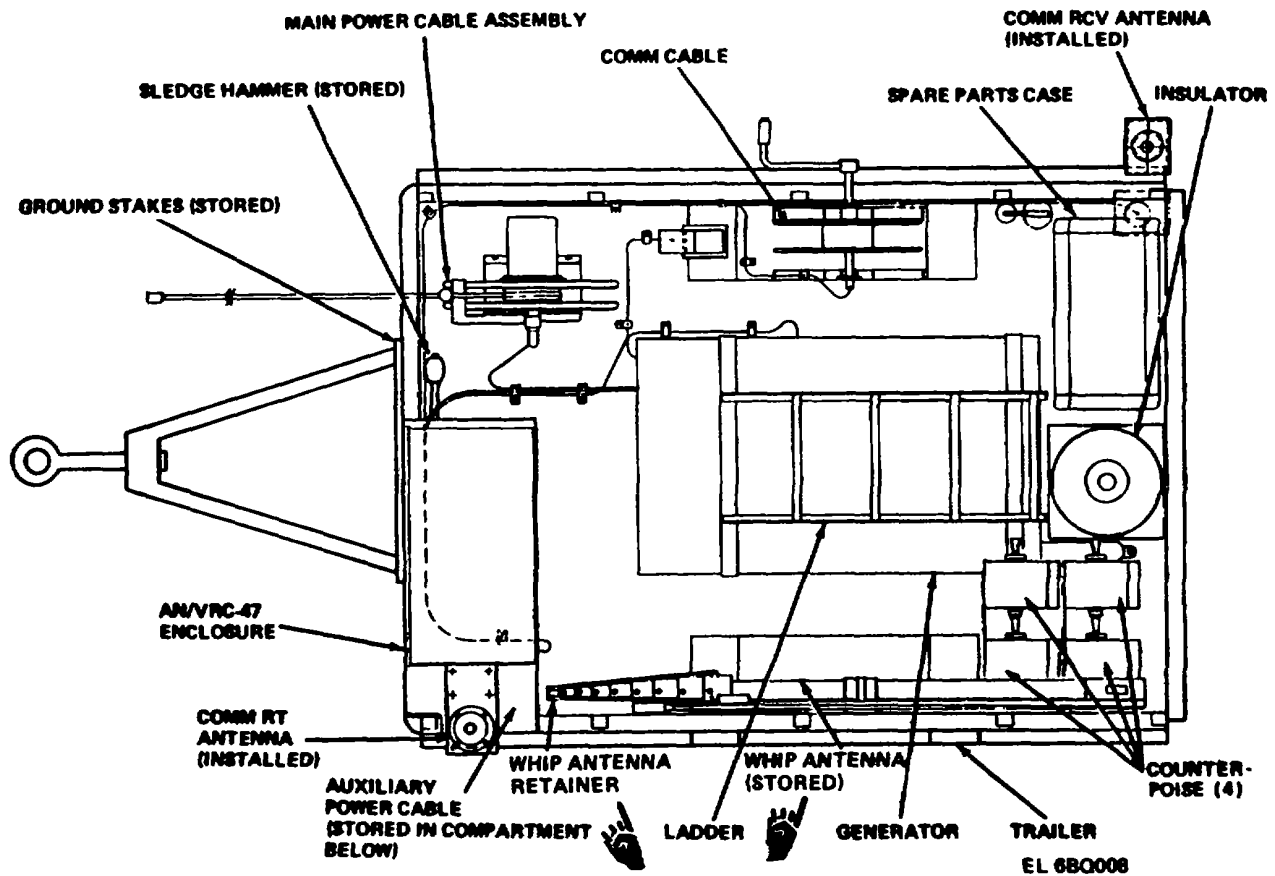

Figure 2-23. Trailer, top view, location of equipment for installation.
(1) Loosen six captive thumbscrew and remove cover plate from insulator base open located on top of shelter.
(2) At trailer, loosen six captive thumbscrews and remove antenna insulator. Store cover plate removed in previous step in place of the removed antenna insulator. See figure 2-23.
(3) Remove all dirt and foreign matter from antenna coupling socket inside insulator.
(4) Place antenna over opening on shelter roof, Fasten securely with the six captive thumbscrews.
(10) At trailer, remove comm rt antenna and comm rcv antenna from their respective storage locations and assemble antenna sections. See figure 2-23 for storage locations.
(1) Unscrew captive screws holding four counterpoises to storage rack. See figure 2-23 for location.
(2) Lift and disengage each counterpoise from storage rack.
(3) Transfer four counterpoises to shelter area. Engage each counterpoise to mounting rack on each corner of shelter.
(4) Fasten each counterpoise securely using captive screw.
(5) Remove grounding set from spare parts case and fasten each strap from counterpoise to shelter structure at points provided. Tighten screws securely.
(2) Connect sling hooks (one nearest turnbuckles, fig 2-23) to lifting eyes provided on roof of shelter.
(3) Connect other sling hooks and hook on overhead lifting device to lifting ring
(4) Tie a ½ -inch guide rope (approximately 15 feet long) to each rear towing eye.
(5) Use overhead lift and position a man on each guide rope to lift shelter high enough to clear truck
(6) Position truck under shelter slowly lower shelter to its correct position on truck. Remove sling, lifting device, and guide ropes; raise and secure truck tailgate.